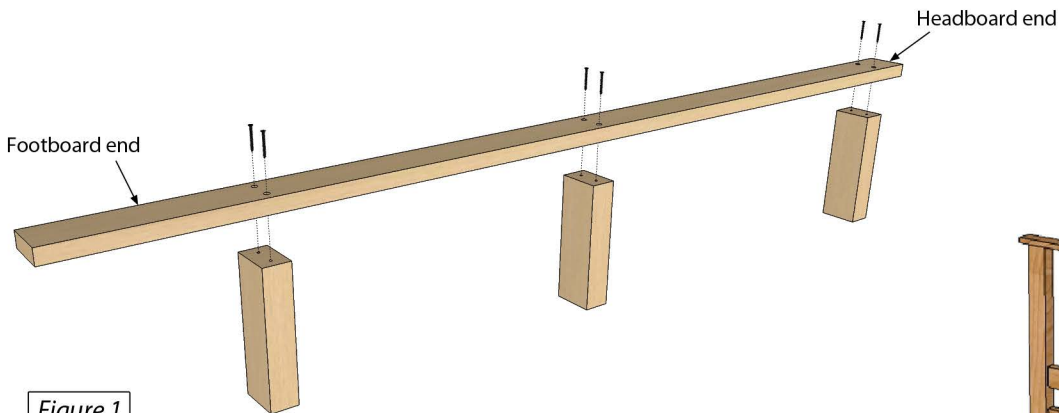

Figure 1
- 1) Use the **6 – 1 3/4" Long Screws** to attach the three Leg Blocks to the Support Rail. (Figure 1)